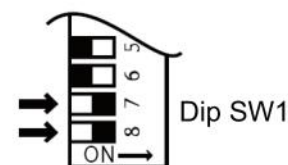

Fig. 5
13. Set the Rinnai to **'Forced High'** combustion by setting No.7 and No.8 switches to 'ON' (Fig.5). Ensure maximum water flow.